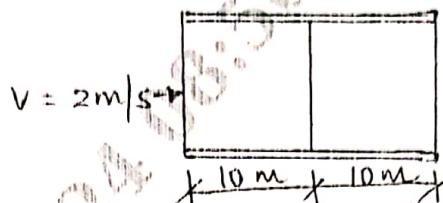

Fig. Q8 (b)
- b. For a smooth pipe with uniform cross section of 1 m^2 ; determine the flow velocities at the centre and at the right end of the Fig. Q8 (b). Given velocity at the left is 2 m/sec .